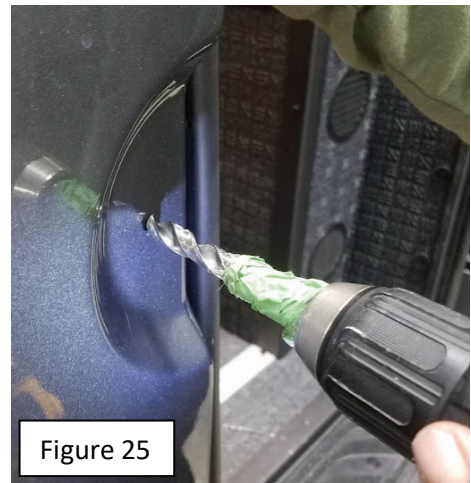

Figure 25
- e. Now use a 25/64" drill bit and drill to drill through the pilot hole as shown in figure 25.